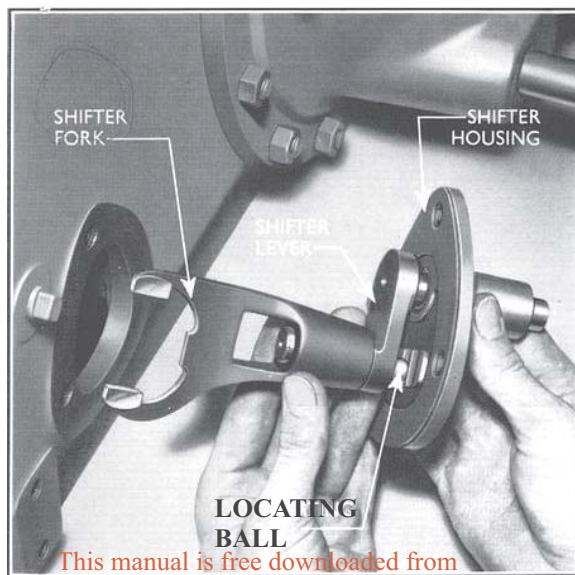

Fig. 30
1. Slide the shifter fork off the cranked end of the shaft (see Fig. 30).